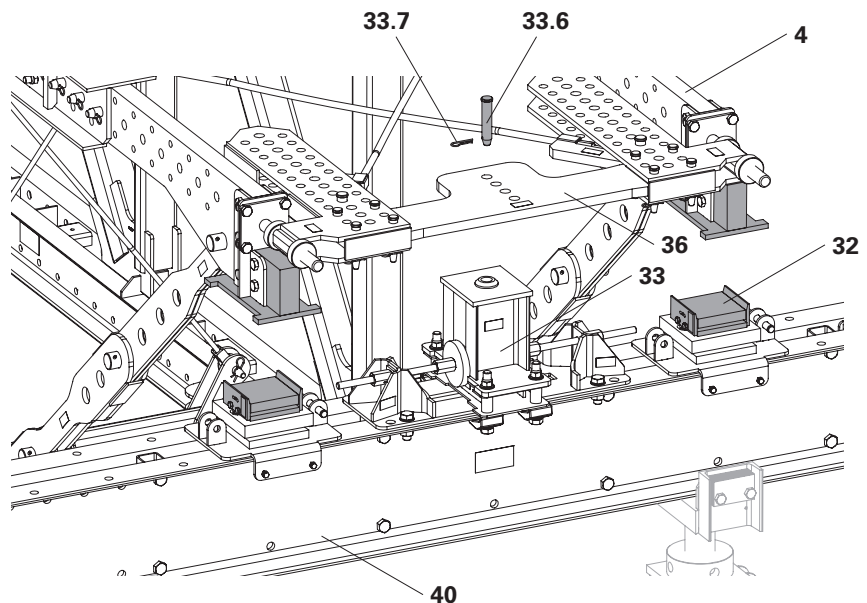

Fig. C1.03
1. Remove cotter pins (33.7) and pull bolts (33.6) out of the horizontal bearing (33).
4. Fly in the truss package and position above the main beams (40).
5. Slowly lower the truss package and place the bearing frames (4) on the longitudinal bearings (32).
6. On one side of the truss package, insert the bolt (33.6) through the matching hole and connect the truss (36) to the horizontal bearing (33).
- (Fig. C1.03)